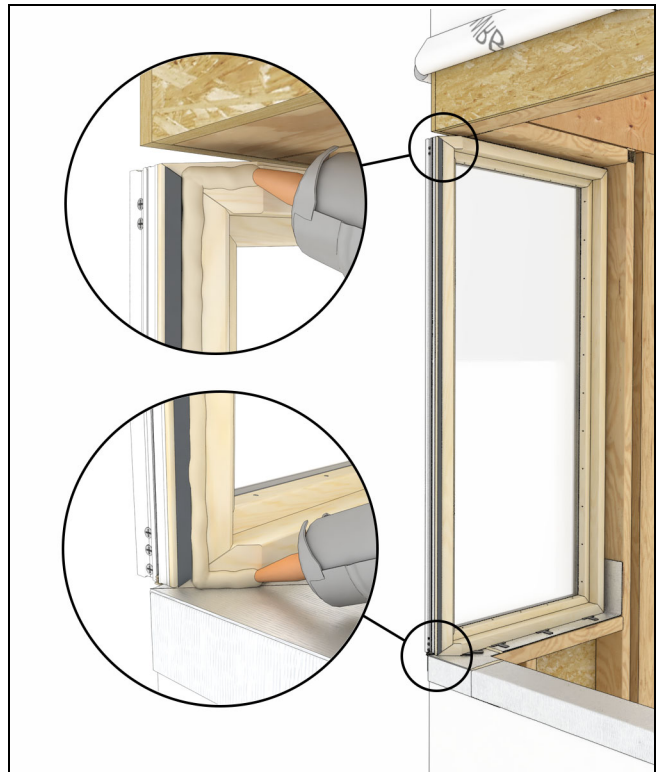

Figure 38
5. Place a 1/4" bead of adhesive along the sill and head jamb miter as shown in Figure 38.